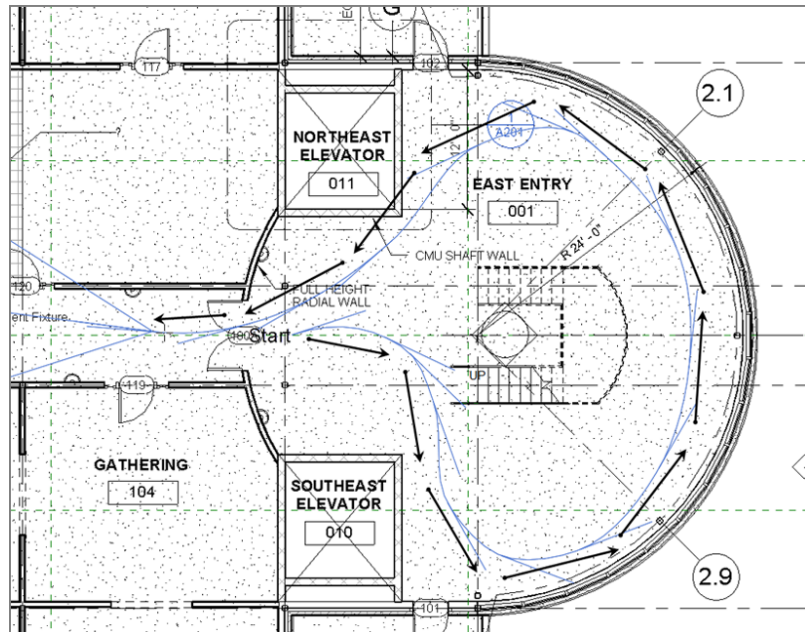

FIGURE 19.19: Picking the points in the floor plan
4. Start picking points, as shown in Figure 19.19.